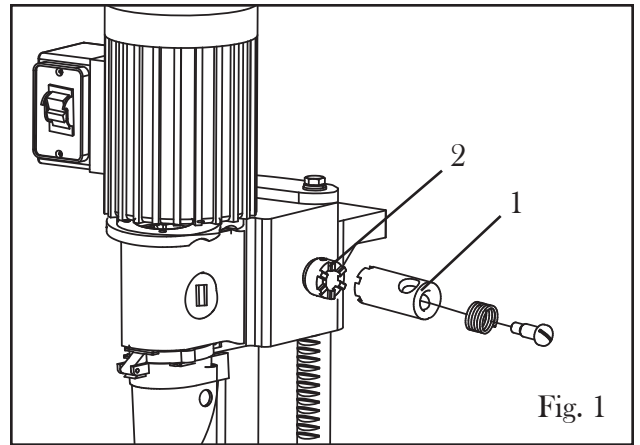

Fig. 1
STEP 2: INSTALL THE HANDLE (Fig. 1 &2)
1. Align the handle clutch (Fig. 1 - 1) to the end of the pinion shaft (Fig. 1 - 2) and fasten using the spring and screw.